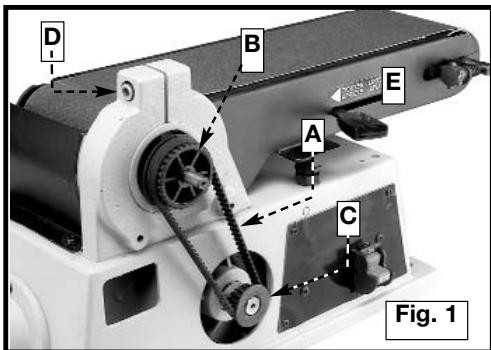
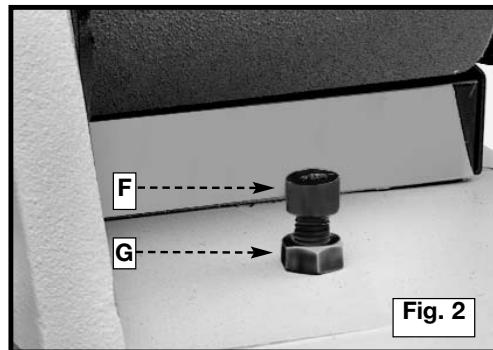

Fig. 1
Fig. 2
Your sander was shipped from the factory with the drive belt (A) Fig. 1 attached to both pulleys (B) and (C). Before assembling the machine, check and adjust the belt tension.
1. Loosen the screw (D) Fig. 1 with the 6mm hex wrench, and move the sanding arm (E) to the vertical position to expose belt tensioning screw (F) Fig. 2, and locknut (G).